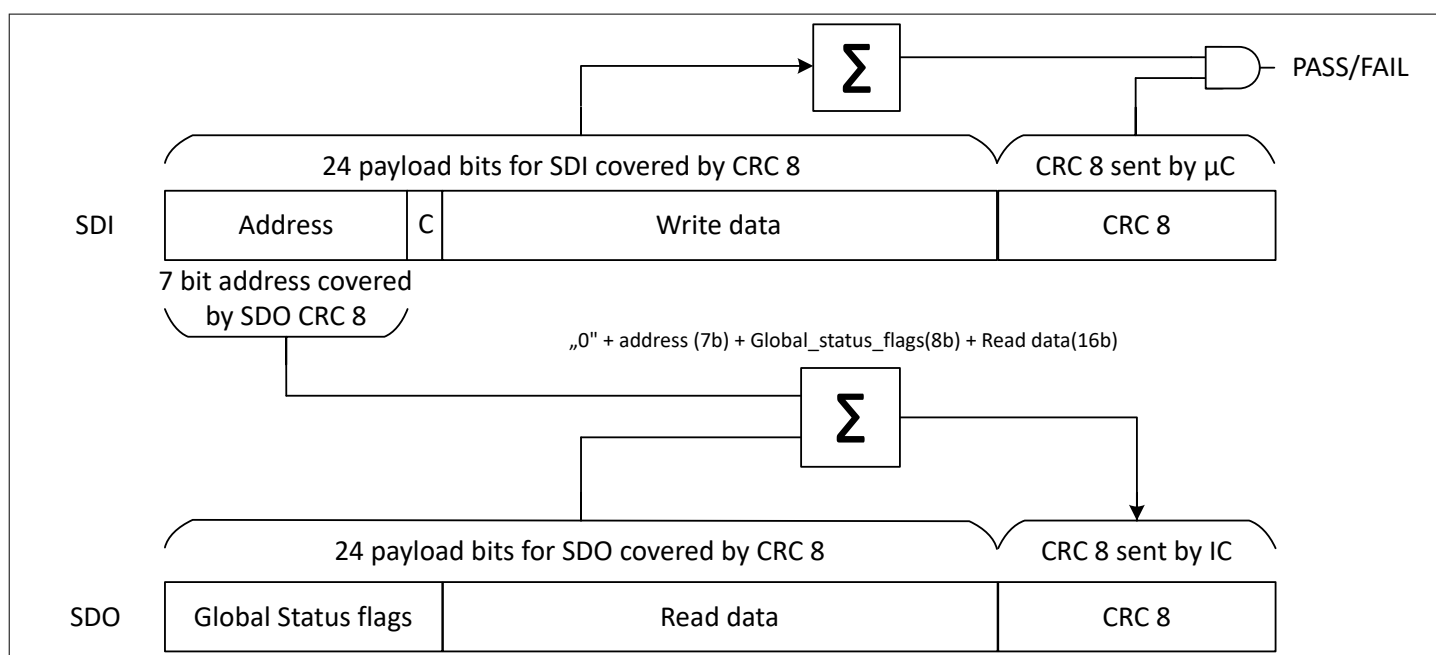

Figure 20 **SPI CRC8 calculation for in-frame response (IFR)**
- For SDO in-frame response the CRC8 is calculated for a 32 bit payload consisting of: dummy "0" bit + received 7 bit address (current frame) + SDO 8bit Global Status Flags + SDO 16bit read data, CRC8 bits excluded (see Figure 20).